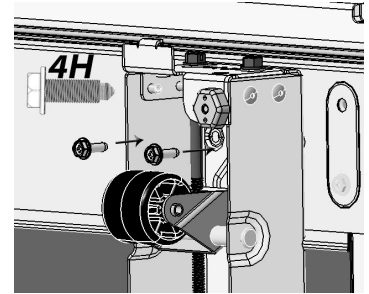

Fig. 4
- b. Using the 4H bolts from step 1, fasten the front of the Leveler Assembly to the refrigerator/freezer using a $\frac{5}{16}$ " nut driver (Fig. 4).